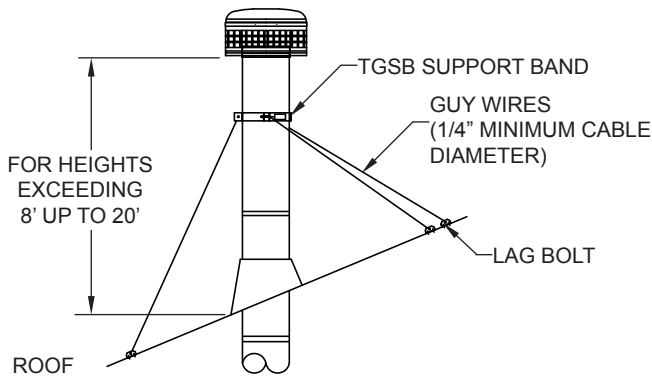
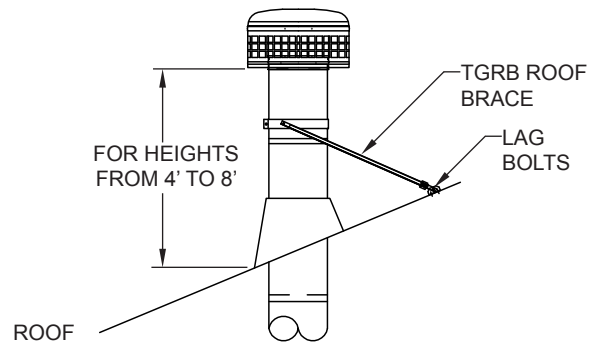

FIG. 27
FIG. 28
Select the proper support for your application, using either a roof brace (FIG. 27 on Page 12) or a support band with guy wires (FIG. 28 on Page 12).
3. Position the support legs as shown in FIG. 28 on Page 12. The length of the support legs can be adjusted by loosening the bolt on the leg clamp.